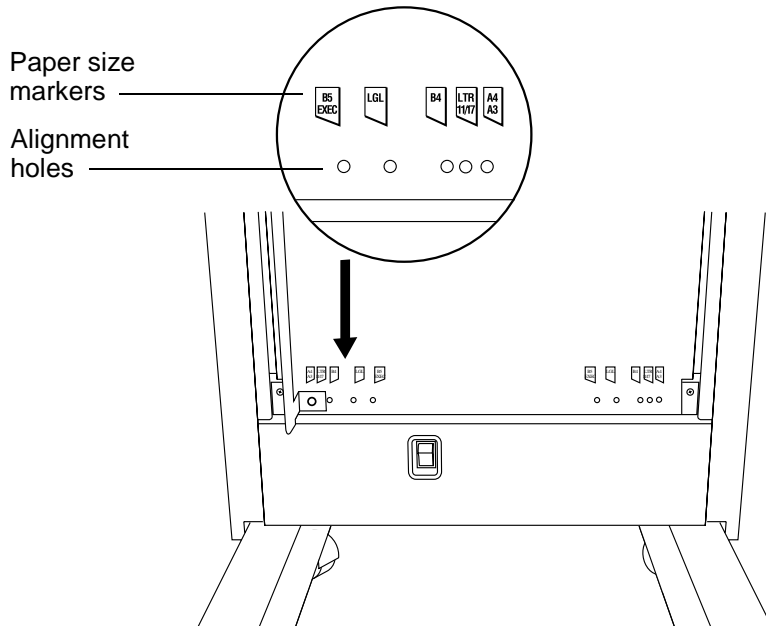

Figure 7 Paper size markers
Step 4 Locate the paper size markers on the HCO and find the alignment hole that corresponds to the desired paper size. See Figure 7.